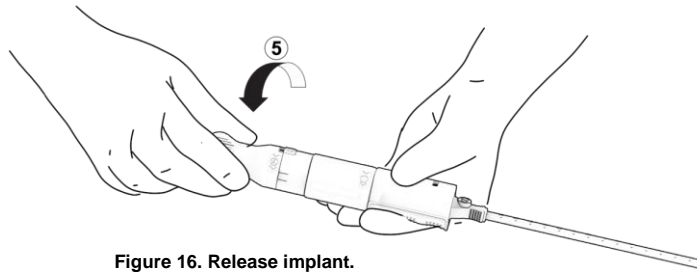

Figure 16. Release implant.
- a. Place the free hand on the Release cam, marked '5' and partially rotate this grip section 90° in the direction indicated as far as the first alignment marks. Figure 16. The implant is now in the fully deployed configuration, but the implant is still attached to the device handle.